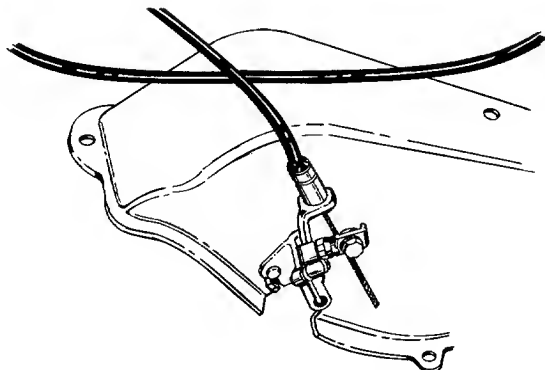

FIGURE 11.
- d. Push the mechanism on the end of the cable all the way onto the pin and hub assembly. Tighten the locking bolt while holding the mechanism firmly in place. See figure 11.